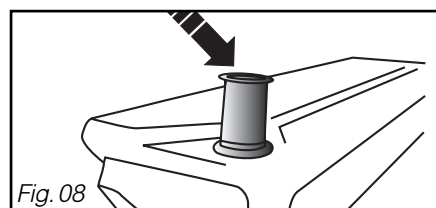

Fig. 08
- Extract the channelling tube from the water recovery tank (Fig. 08).